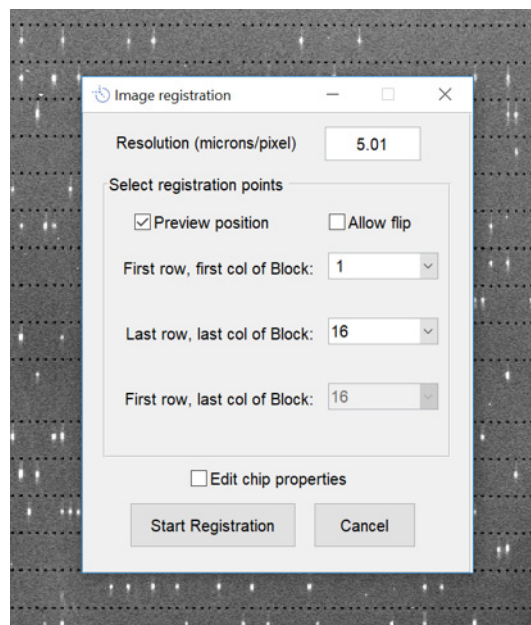

Figure 2-6: Image registration dialog window.
3. Once the image has loaded, the Image Registration window will display (Figure 2-6).